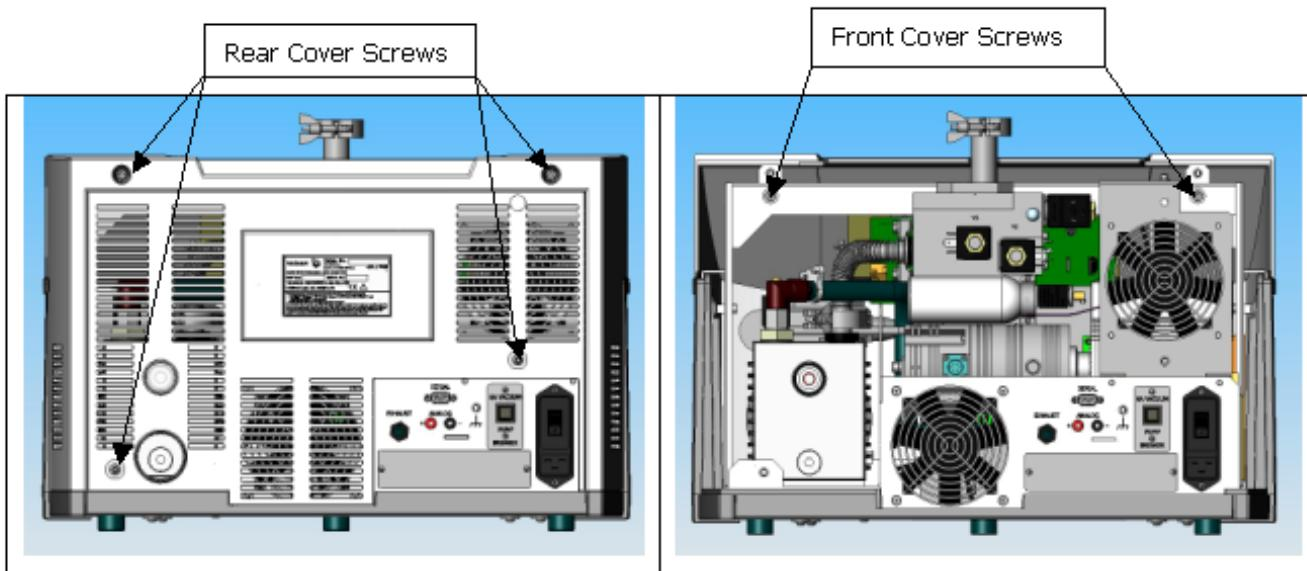

Figure 9: Rear and Front Cover Screws
3. Using an extended length M5 Allen wrench, remove the four screws holding the rear plastic cover (Figure 9: Rear and Front Cover Screws) and detach the rear plastic cover from the unit.